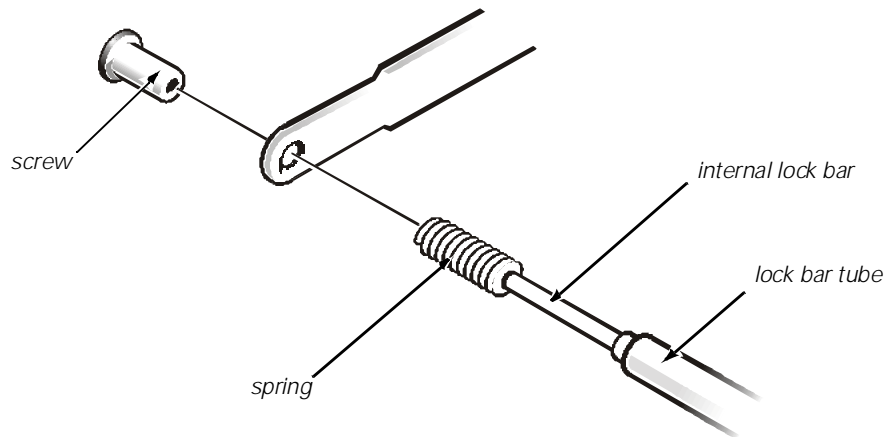

Figure 5. Left Lock Bar Screw
8. Use the Allen wrench to remove the screw on the left end of the lock bar tube (see Figure 5).